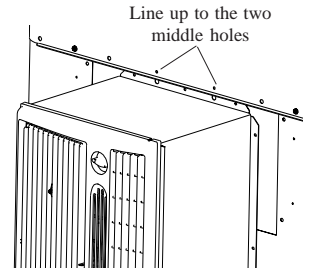

Fig. 12
4. Insert the flange of the tunnel between the front panel and the top pan. Line up the two larger holes in the tunnel with the center two holes of the top pan. (Fig 12).